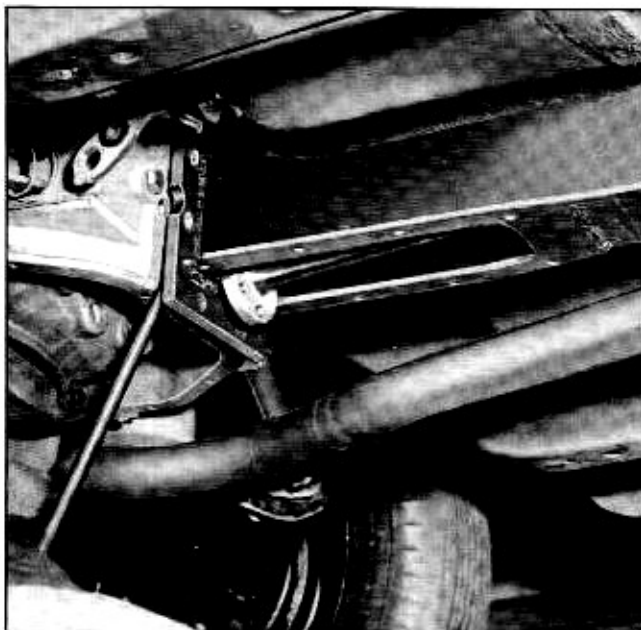

Fig. 4-13 Remove Torque Tube and Propeller Shaft From Flywheel Housing
14. Pry torque tube and propeller shaft away and down from flywheel housing (Fig. 4-13).